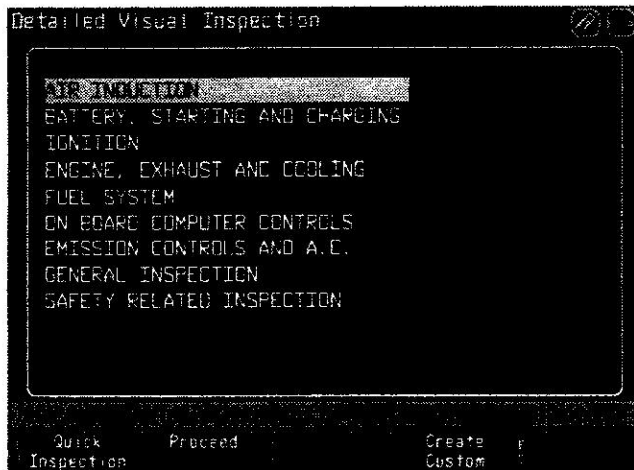

Figure 2-2
- [F1] – to display the *Detailed Inspection* screen (see Figure 2-2). This screen shows additional items which are part of the system and are highlighted on the *Visual Inspection* screen;
Press [F1] to create a custom visual inspection menu. The *Detailed Inspection* screen will appear (see Figure 2-2).